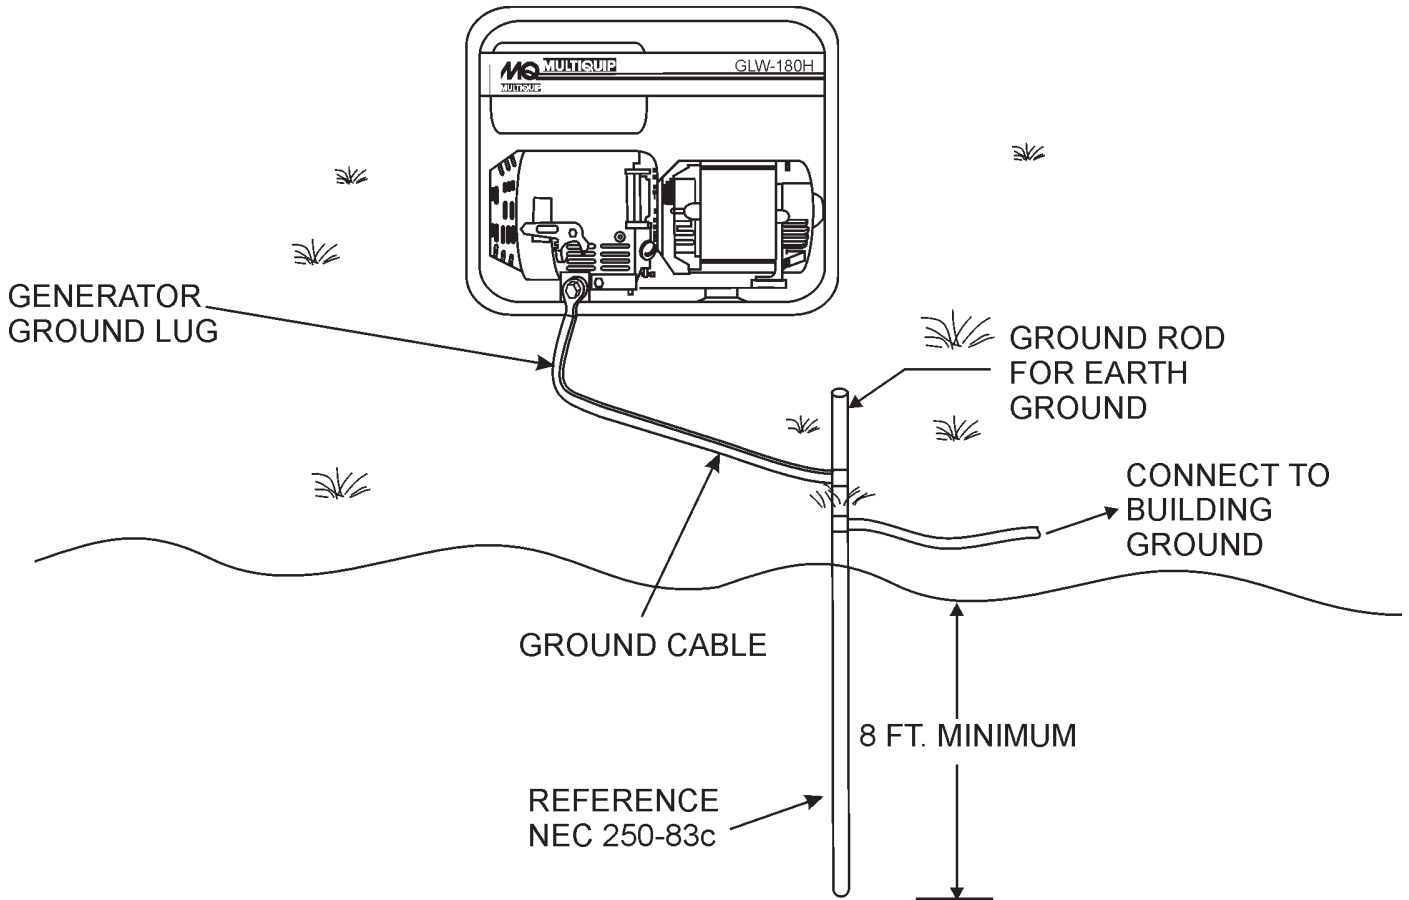

Figure 3. Generator Ground Rod Application
12. **Chassis Ground** – Connect earth ground (**ground rod**) to this lug. See Figure 3.
Article 250 (Grounding) of the National Electrical Code (NEC) provides guide lines for proper grounding and specifies that the cable ground shall be connected to the grounding system of the building (Figure 3) as close to the point of cable entry as practical.
2. When grounding the generator (Figure 3) connect the ground cable between the lock washer and the nut on the generator and tighten the nut fully. Connect the other end of the ground cable to earth ground.
Connect the terminal of the ground wire between the lock washer and the nut at the base of the generator and tighten the nut fully. Connect the other end of the ground wire to a **grounding rod** as shown in Figure 3.